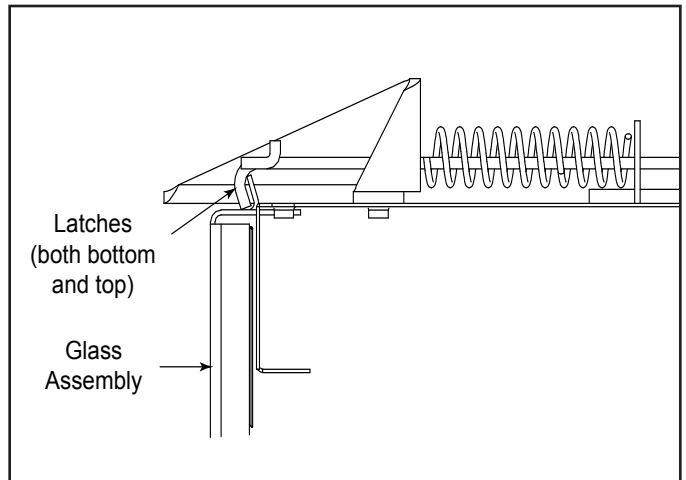

Figure 4.1 Fixed Glass Assembly
- Pull the four (two upper and two lower) glass assembly latches out of the groove on the glass frame. See Figure 4.1.